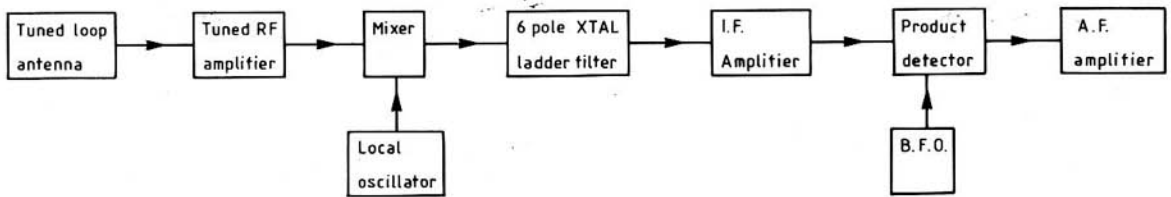

Fig 4. BEACON RECEIVER BLOCK DIAGRAM
The Ogof Beacon Receiver is rather sophisticated and consequently expensive. The construction and alignment are not a simple undertaking for the inexperienced constructor, the alignment particularly requiring specialised test equipment. The design is based on a high performance radio amateur receiver, of the superhetrodyne type. The circuitry for the receiver was constructed on three double sided printed circuit boards where the top side in each case is grounded. The first board contains RF amplification, crystal controlled local oscillator and crystal ladder filter. The second contains only the two stages of IF amplification and the third contains a beat frequency oscillator (BFO), diode mixer and audio (AF) amplification. Dividing the amplification over different printed circuit boards adds to the stability of the receiver. Fig 4 is a block diagram of the Ogof Beacon Receiver.